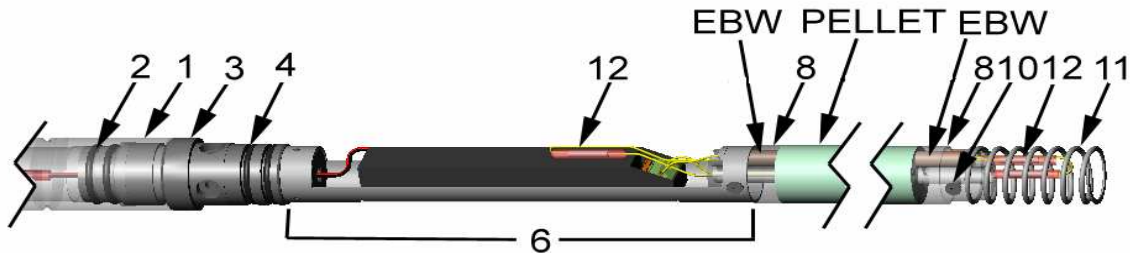

Figure 4: Pellets and Detonators Installed for Severing Tool
3.7 Insert the EBW, output end first, into the Bottom End Alignment Washer as shown in Figure 4. The EBW should be in contact with the explosive Pellet.